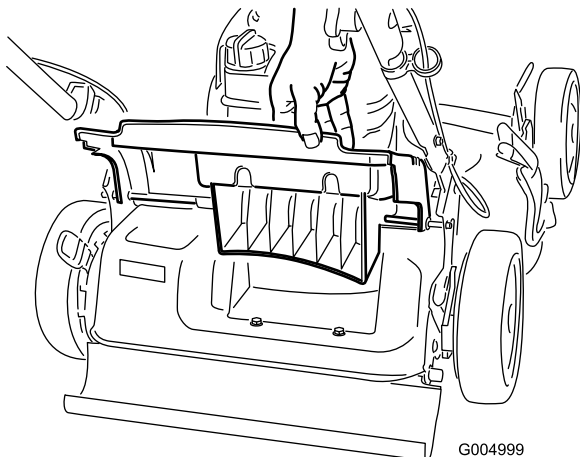

Figure 26
1. Raise and hold up the rear door (Figure 26).